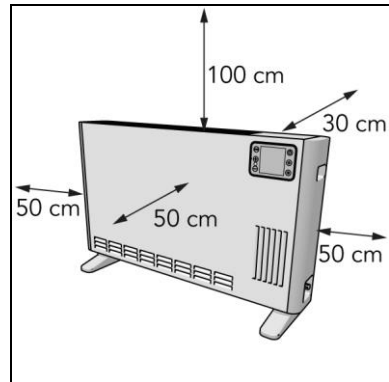

Figure 9
5. Place the device with a minimum clearance distance (Figure 9) of: